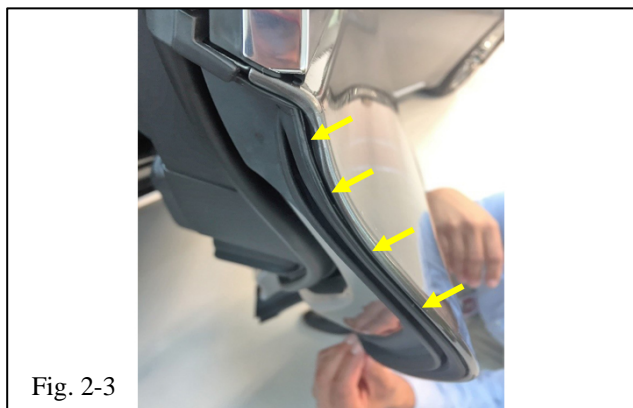

Fig. 2-3
(1) Start at the top of the door edge and lightly separate four inches of the “soft-close” weatherstrip from the edge of the door panel with one hand (Fig. 2-3).
(2) Using the other hand, proceed wrapping the film around the door edge with your finger tip.